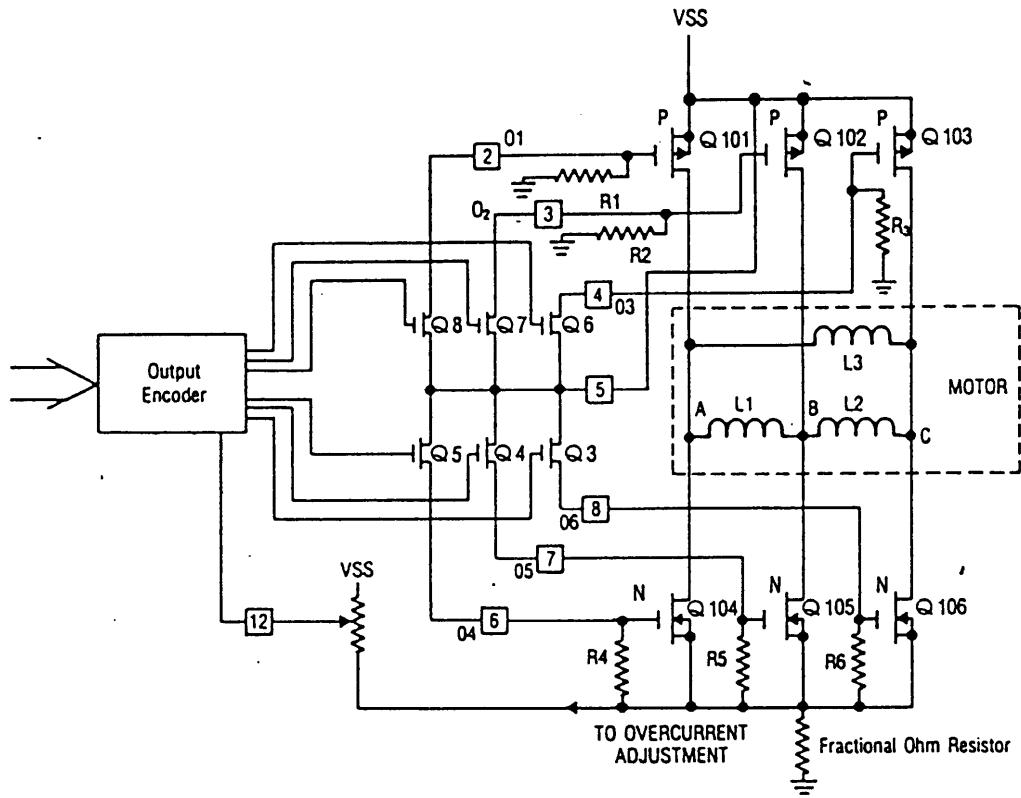

FIGURE 1
The LS7260/LS7261/LS7262 are monolithic, ion implanted MOS circuits designed to generate the signals necessary to control a three phase or four phase brushless D.C. motor. They are the basic building blocks of a brushless D.C. motor controller. The circuits respond to changes at the sense inputs, originating at the motor position sensors, to provide electronic commutation of the motor windings. Duty cycle modulation of outputs for motor speed control is accomplished through either the Enable Input or through the Analog Input (VTRIP) in conjunction with the oscillator input. Overcurrent circuitry is provided to protect the windings, associated drivers and power supply. The LS7261 overcurrent circuitry causes the external output drivers to switch on and off directly from the overcurrent sense input. The LS7260 and LS7262 circuitry causes the external output drivers to switch off immediately upon sensing the overcurrent condition, and on again only when the overcurrent condition disappears and the positive edge of either the enable input or the sawtooth oscillator occurs. This limits the overcurrent sense cycling to the chopping rate of the enable input or the sawtooth oscillator. A positive braking feature is provided to effect rapid deceleration. While the LS7261/LS7262 are designed for driving NPN and PNP transistors (see Figure 2), the LS7260 is designed to drive both NMOS and PMOS Power FETs and develops a full 12 volts drive for both the N Channel and P Channel devices (see Figure 1) when using a 12 volt power supply.
For the LS7261 and LS7262, a high level applied to this input unconditionally turns off outputs 1, 2 and 3 and turns on outputs 4, 5 and 6. (See Figure 2). For the LS7260, the high level at this input turns ON outputs 1, 2, and 3 and output 4, 5 and 6. (See Figure 1). In both cases, transistors Q101
The oscillator is used for motor speed control as explained under VTRIP. Both upper and lower motor drive transistors are pulse width modulated (see Fig. 1 or Fig. 2) during speed control.
For the LS7260, (See Fig. 1) the external drivers also turn on in pairs. Internal operation is somewhat different than the LS7261 or LS7262. For example, external transistors Q101 and Q105 will turn on when internal transistor Q8 turns off and Q4 turns on enabling full power supply drive on Q101 and Q105. Since Pin 5 is tied to VSS, the gate of P-channel Driver Q101 is brought to ground potential by R1 and the Gate of N-Channel driver Q105 is brought to VSS potential by Q4. Other external output pairs turn on similarly and the commutation sequence is identical to that of the
LS7261/LS7262 (Table III). Table II indicates the minimum value of R1 (=R2=R3=R4=R5=R6) needed as a function of output drive voltage for Figure 1.
*See fig. 1 and 2